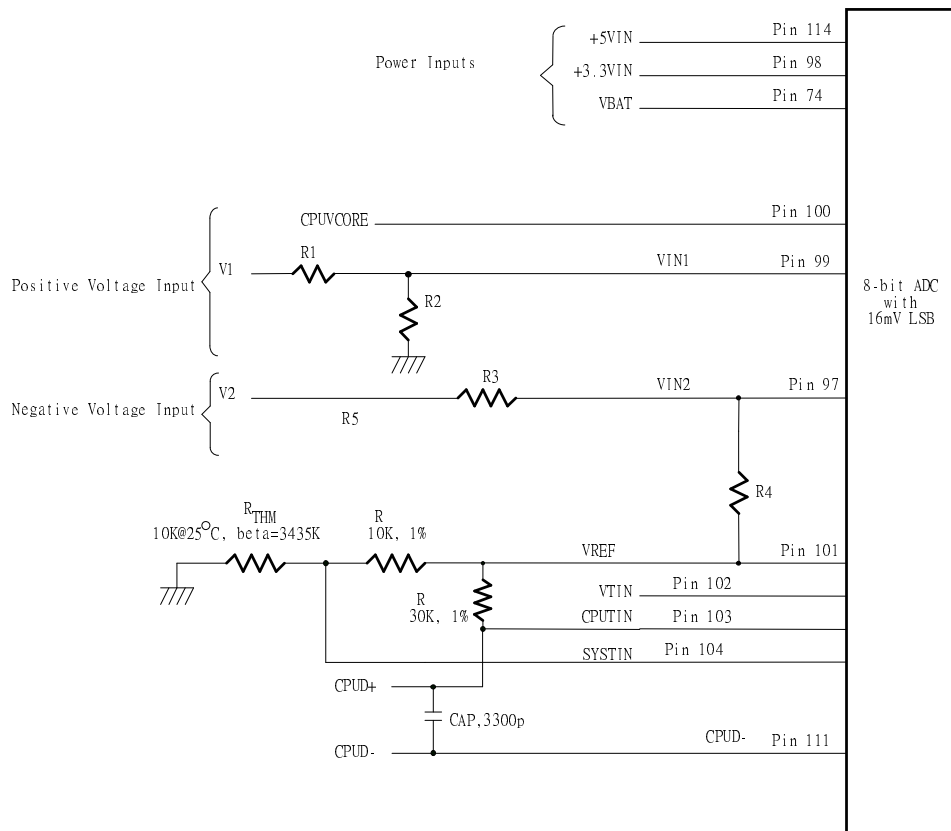

Figure. 6.2
The maximum input voltage of the analog pin is 4.096V because the 8-bit ADC has a 16mV LSB. Really, the application of the PC monitoring would most often be connected to power suppliers. The CPU V-core voltage, +3.3V, battery(pin 74) can directly connected to these analog inputs. The +12V voltage inputs should be reduced a factor with external resistors so as to obtain the input range. As Figure 6.2 shows.
The W83637HF can connect three thermistors to measure three different envirimnt temperature. The specification of thermistor should be considered to (1) β value is 3435K, (2) resistor value is 10K ohms at 25°C. In the Figure 6.2, the themistor is connected by a serial resistor with 10K Ohms, then connect to VREF (Pin 101).